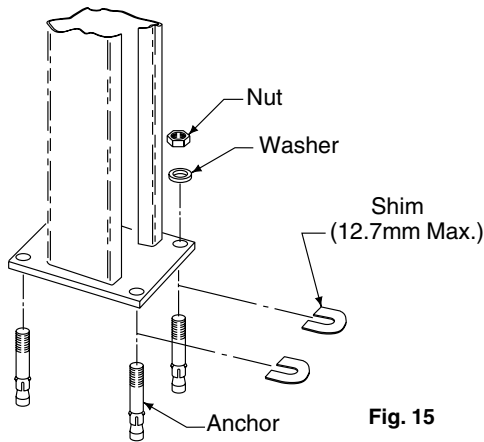

Fig. 15
- D. Next, move the target and place it on the runway at point "B", Fig. 17. Rotate the level and focus on the target scale. Adjust the column at "B" using shims under base plate, Fig. 15, until the crosshairs of level align to reference mark on the target scale. Repeat for points C and D.